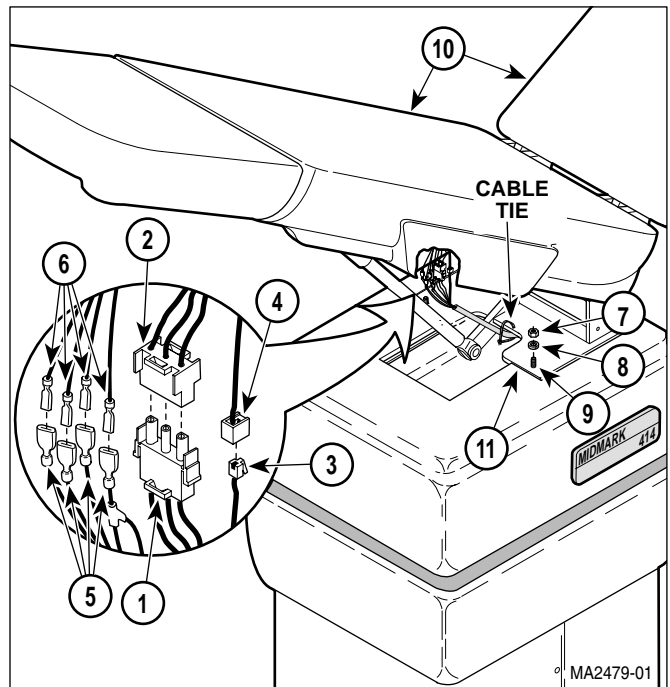

Figure 4-3. Table Top Removal / Installation
- (2) Unplug power cord from wall outlet.
- (3) Unplug power cord wire harness (1, Figure 4-3) from wire harness (2).
- (4) Disconnect cord set (3) from modular coupler (4).